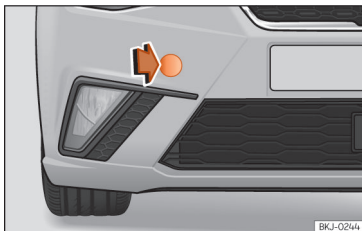

Fig. 45 Right side of the front bumper: remove the cover.
The housing of the removable towline anchorage is on the right side of the front bumper underneath a cover » **Fig. 45.**
- Remove the cover by pressing down on its left-hand side and leave it hanging from the vehicle » **Fig. 45.**